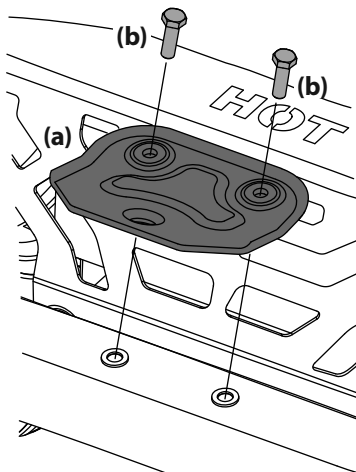

Figure 2
1. Locate Hitch (a) and install on the rear of the frame using the two hex washer screws (b) provided. See Figure 2.